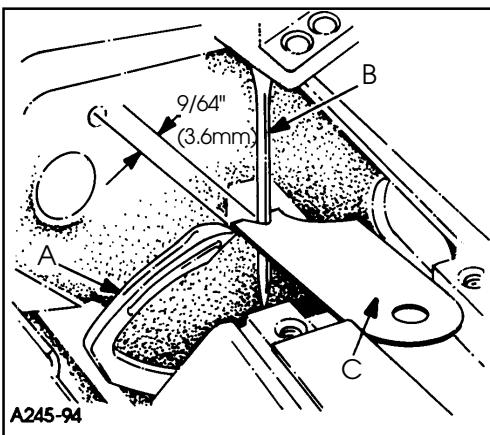
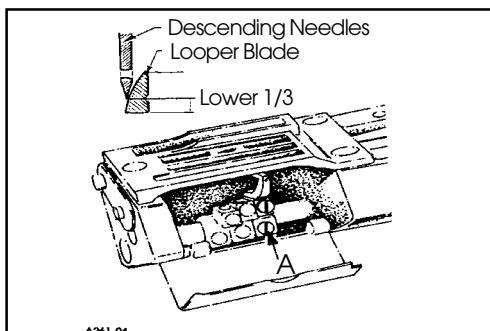

FIG. 6
FIG. 7
Insert a new set of needles, type and size specified. Always adjust the looper (A, Fig. 6) for the left needle first. Set the looper so that the distance from the center of the needle (B) to the point of the looper (A) is 9/64" (3.6mm) when the looper is at its farthest position to the left. Looper gauge (C) No. 21225-9/64 can be used advantageously in making this adjustment. If adjustment is required, loosen screw (A, Fig. 7) in looper holder, permitting movement in either direction to attain the 9/64" (3.6mm) dimension as shown in Fig. 6. Retighten screw (A, Fig. 7). Repeat for other needles and loopers.
Rotate handwheel in operating direction to assure that the looper point passes to the rear of the needle to touch but not deflect. This adjustment can be made by loosening screw (A, Fig. 7) in looper holder. Looper holder can be moved front to back to attain looper to needle setting. Always check the 9/64" (3.6mm) looper gauge setting after setting the looper to the back of the needle, and conversely, always check the setting of the looper to the back of the needle after setting the 9/64" (3.6mm) looper gauge.